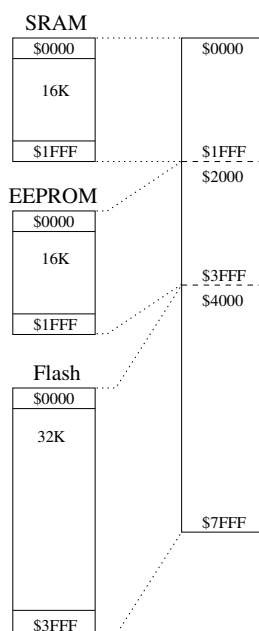

Figure 2.8: Different memory types mapped into one address range.
- All memory types share a common address range, see Figure 2.8 (e.g. HCS12).